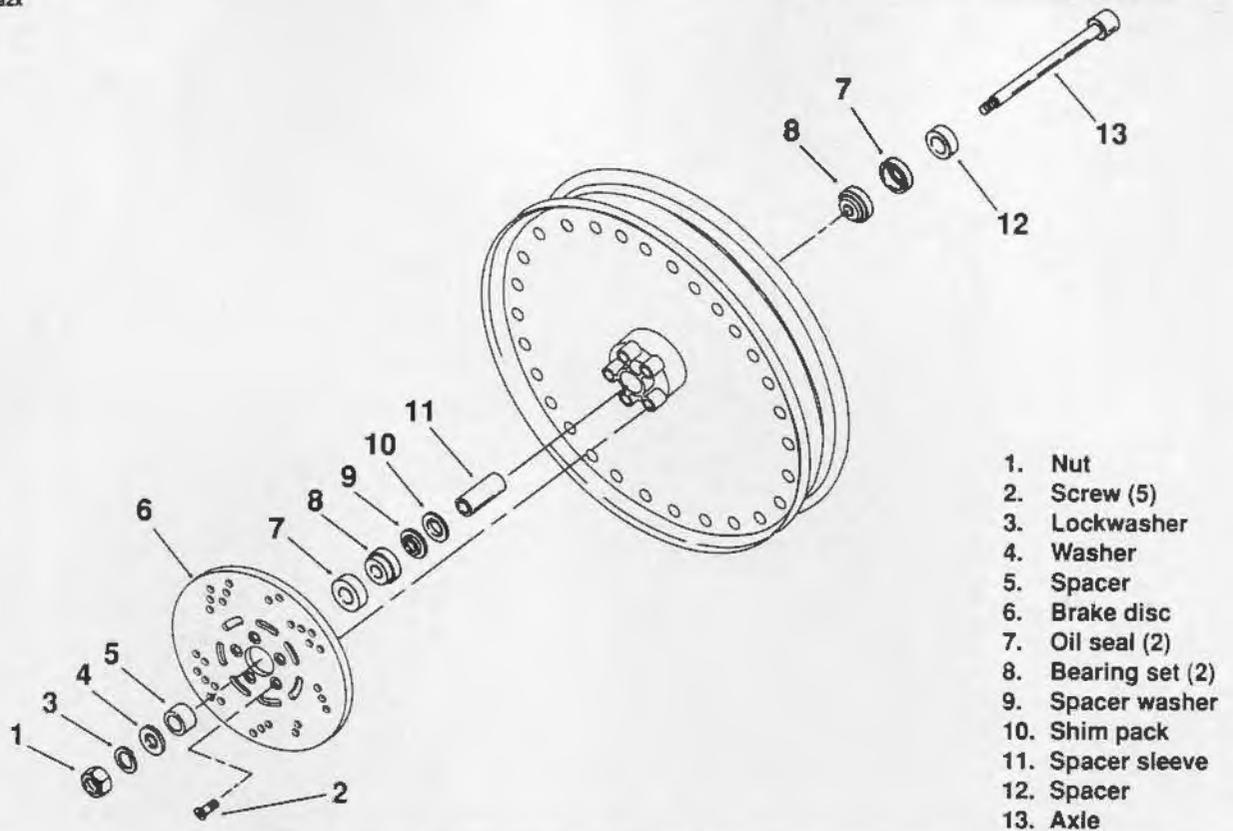

Figure 2-3. Disc Front Wheel
1. See Figure 2-3. Remove the spacer (5), oil seals (7), bearing cones (8), spacer washer (9), shim pack (10), and spacer sleeve (11). Discard oil seals.
3. If it is necessary to remove the brake disc, remove the T-40 Torx screws (2) securing the disc. Mark the wheel and disc so they will be assembled in their original positions.
1. See Figure 2-3. Be sure brake disc is clean. Install brake disc in the original position using new Torx screws (2). Tighten screws to 16-24 ft-lbs (22-33 Nm). If wheel cover was removed, install it now.
3. Place the spacer sleeve (11), shim pack (10), and spacer washer (9) into the wheel.
The shim pack, Item (10) in Figures 2-3 and 2-4, controls the amount of wheel bearing end play.